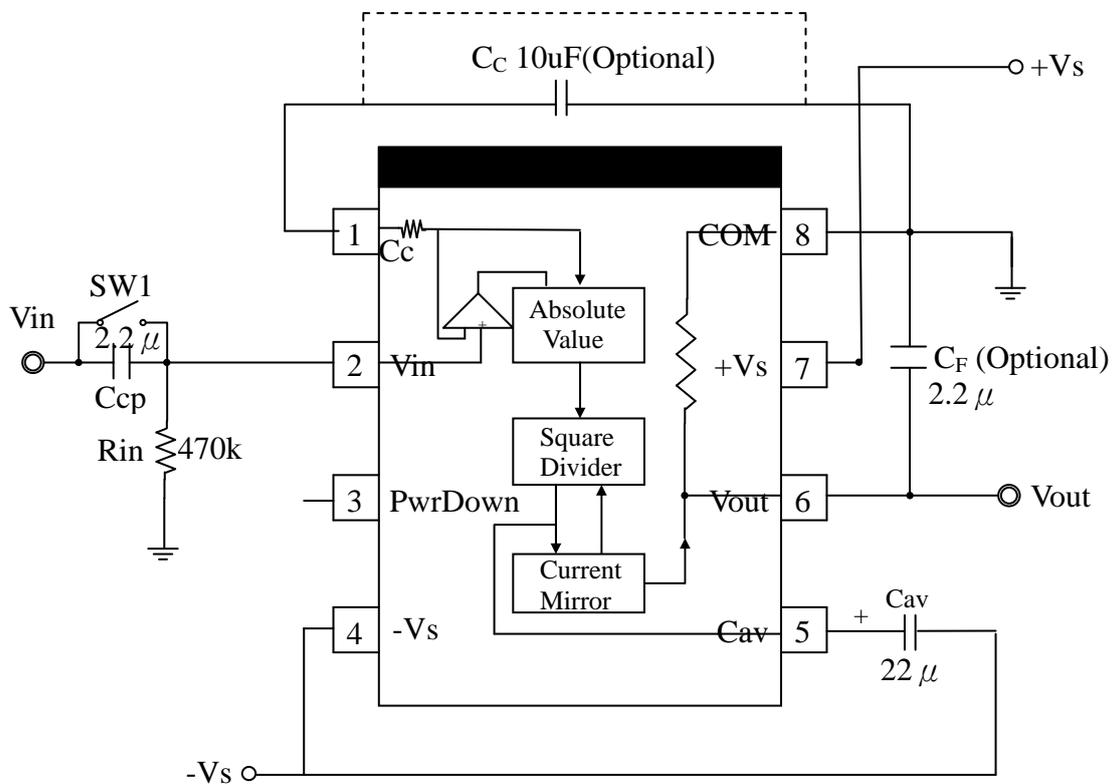

Figure 2. Standard connection for ES737.
**Standard Connection for ES737 (Figure 2)**
The standard RMS connection requires only two external components,  $R_{in}$  and  $C_{av}$ . Other components shown in figure 2 are optional. In this configuration, ES737 measure the RMS of the AC and DC levels present at the input, but shows an error for low-frequency inputs as a function of the  $C_{av}$  filter capacitor. Figure 4 gives practical values of  $C_{av}$  for various values of averaging error over frequency for the standard RMS connections (no post filtering). If the DC error can be rejected, a capacitor  $C_{cp}$  should be connected in series with the input, as would typically be the case in single-supply operation.
Refer to the standard circuit of ES737 shown in Figure 2. ES737 will work in an AC-coupled operation when the SW1 is opened. In AC-coupled operation, an AC-coupled capacitor ( $C_{cp}$ ) and bias resistors  $R_{in}$  must be required. The pin1 connected to  $C_c$  capacitor is necessary for this case.
To reduce the output ripple of ES737, a post filter capacitor  $C_F$  is required. This capacitor should be connected as shown in figure 2. With post filter, the value of  $C_{av}$  should be just large enough to give the maximum dc error at the lowest frequency of interest. And the output ripple will be removed by the post filter.